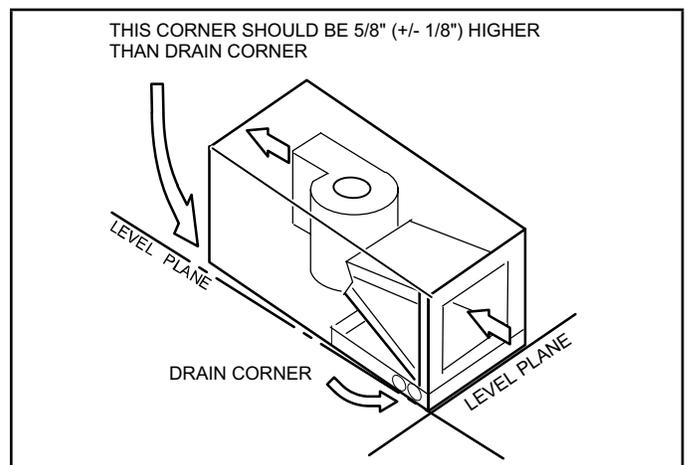

FIGURE 14. Sloping the Unit for Proper Drainage
- Set unit so that it is sloped toward the upflow drain pan end of the unit and level from front to back of unit (see figure 14).
Make sure the unit is sloped (similar to the slope shown in figure 14) so that the drain pan will empty completely without water standing in the pan.